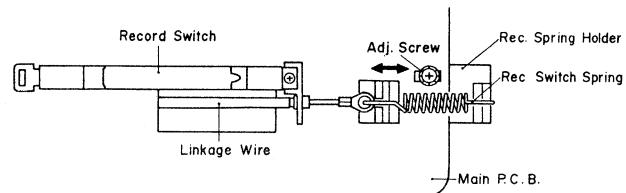

Fig. 5.15.1
- (1) Set the N-580M in stop mode.
- (2) Loosen the screw of the Record Spring Holder, and shift the Record Spring Holder in order to remove the looseness of the Linkage Wire as shown in Fig. 5.15.1. Then tighten the screws for fixing the Record Spring Holder. (In this case, the Record Switch should be positioned at play side. If on the record position, it will be defective.)